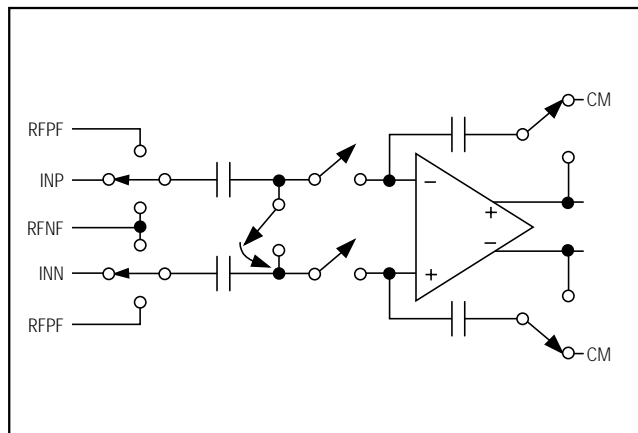

Figure 2. Simplified MDAC Architecture
Fully differential switched capacitor circuits (SC) are used for both the reference and analog inputs (Figure 2). This allows either single-ended or differential signals to be used in the reference and/or analog signal paths. The signal voltage on these pins (INP, INN, RFP_, RFN_) should neither exceed the analog supply rail, AVDD nor fall below ground.